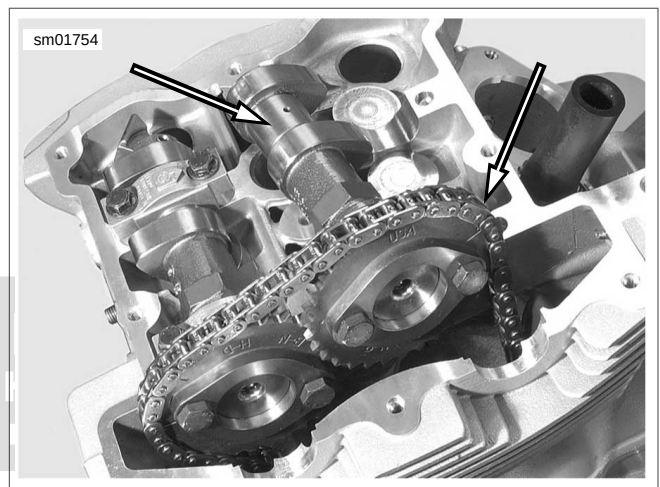

Figure 1-63. Move Cam Aside With Chain Engaged
5. See Figure 1-63. Carefully move cam and drive gear aside. Keep cam drive gear and chain engaged.